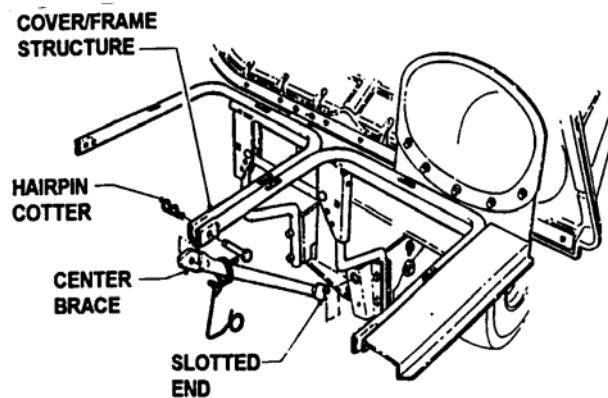

FIGURE 7
STEP 7: Lift cover up for access to frame. Attach center brace to cover/frame with clevis pin and hair pin. Rotate center brace up and hook into adapter bracket. See Figure 7.